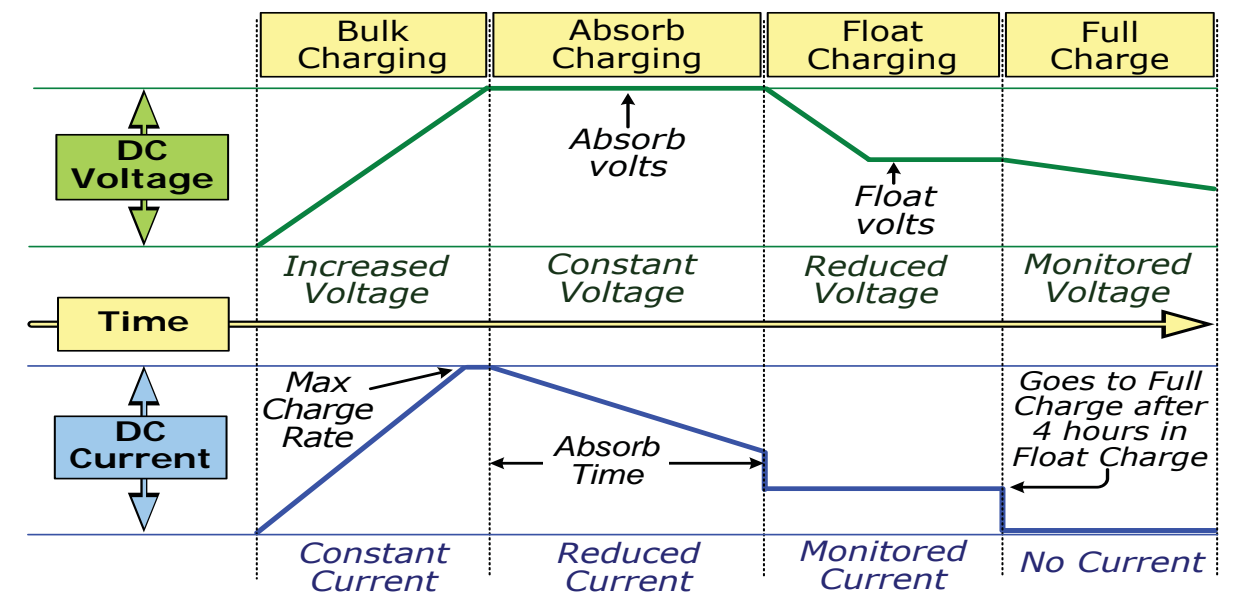

Figure 3-3, Automatic 4-Stage Charging Graph
The Charge mode provides up to four separate charging stages: Bulk Charging, Absorb Charging, Float Charging, and Full Charge (see Figure 3-3).
The multi-stage charger in the ME Series can use up to five different charging stages to help monitor and keep the batteries healthy. The five stages include an automatic 4-stage charging process (see Figure 3-3)—Bulk, Absorb, Float, and Full Charge—and a manual Equalization (EQ) charge stage. The automatic 4-stage charge process provides complete recharging and monitoring of the batteries without damage due to overcharging. The EQ stage (requires a remote control to enable) can be used to stir up stratified electrolyte and to reverse any battery plate sulfation that may have occurred—if recommended by your battery's manufacturer.